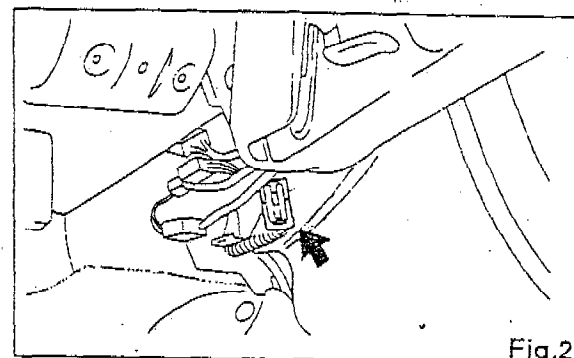

Fig.2
- (4) Disconnect airbag connector (yellow : below steering column, Fig2).